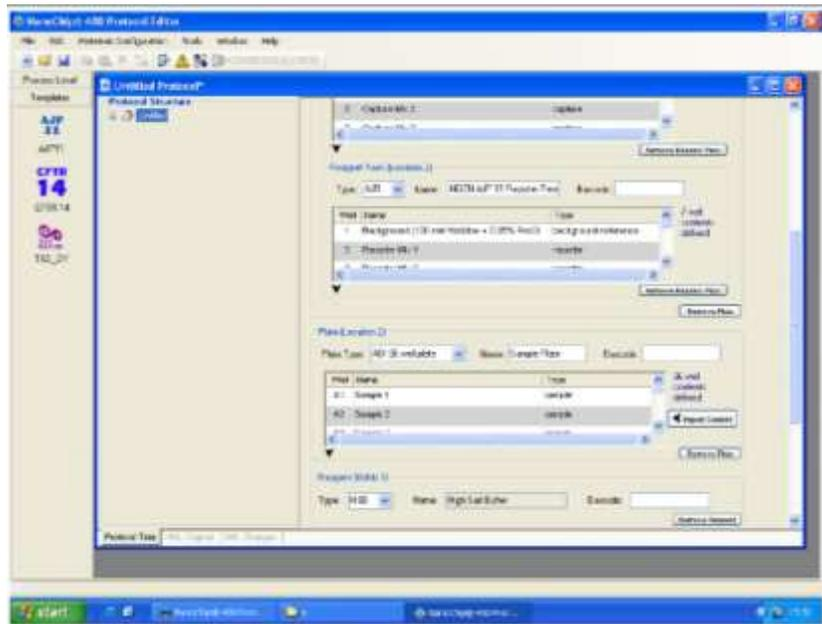

Figure 5. Protocol Editor Screen
- Click on the run name you entered earlier (located under protocol structure), if no name was inserted it will appear as "untitled". **Scroll to 'Plate location 2'** (See figure 5). Here you can either write down your samples names or import it from an excel sheet. LIS connection is also optional.